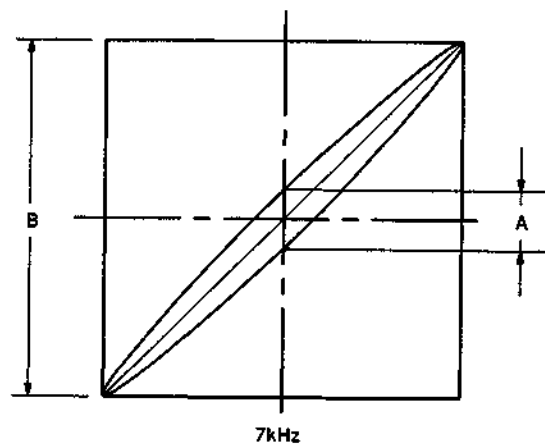

Fig. 2
- (4) Turn the azimuth adjustment screw until the resurge waveform on the oscilloscope meet the specification 2. (Fig. 2)